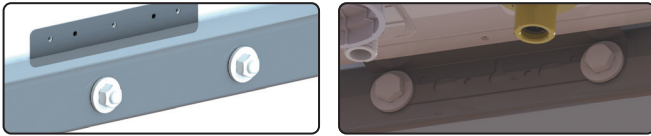

Figure 9 - Single Appliance Secured Lower Bracket
3. Use a 10mm Ratchet/Socket Driver and wrench to secure the lower mounting bracket(s) to the lower beam, using the two(2) M6 bolts and the included washers/nuts. See Figures 9 and 10.